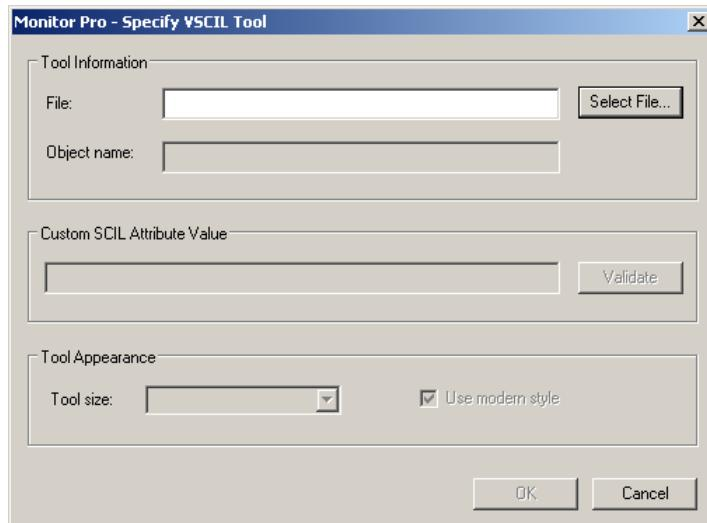

Figure 220: Selecting a VSCIL tool to be run
3. The **Specify SCIL Tool** dialog is displayed, see Figure 220.